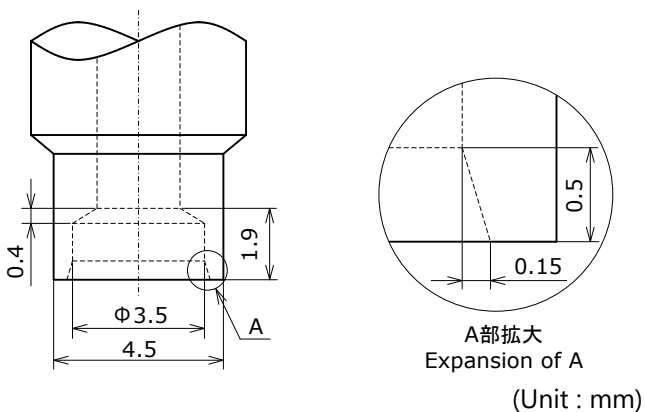

Figure 2. Recommended Nozzle Dimensions
1. When selecting/designing the pick-and-place nozzle, it is important to make sure that there is absolutely no contact between the nozzle and the lens. Ensure proper clearance by taking into consideration the dimensional tolerance of the nozzle and the dimensional tolerance of the LED lens. Nichia's 309/319 series can be used with the pick-and-place nozzle shown in Figure 2.
2. As shown in Figure 2, the nozzle tip should only touch the flat corners of the LED's top surface to hold the LEDs. Ensure that it does not come in contact with the lens. The LEDs use a silicone resin for the lens and internal pre-coating resin; the silicone resin is soft. If pressure is applied to the lens, it may cause the lens to be damaged, chipped and/or delaminated. If the lens is damaged, chipped, delaminated and/or deformed, it may cause the internal connection to fail causing a catastrophic failure (i.e. the LED not to illuminate) and/or reliability issues (e.g. the LED to corrode and/or to become dimmer, the color/directivity to change, etc.) Ensure that no amount of pressure is applied to the lens.